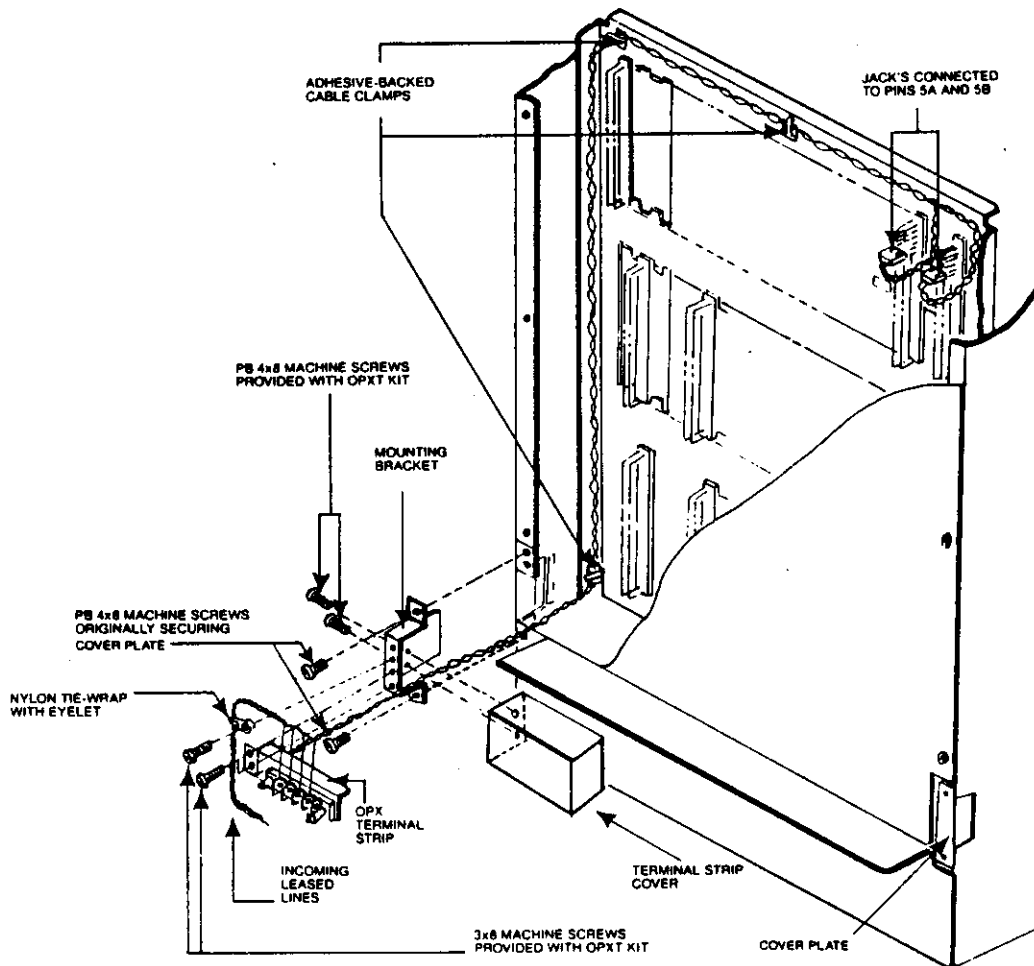

FIGURE 1—MOUNTING THE TERMINAL STRIP AND CONNECTIONS TO ECUO WIRING PINS
2.1.2 Remove the small cover plate located on the back left edge of the KSU housing just above the rear shelf. See Figure 1.
2.3.1 Connect the OPL jack, whose tag reads "1C 5AB," to pins (5A) and (5B) of the backplane location for the first C.O. line selected. See **Figures 1 and 2C**. To prevent a reversed connection, one side of the jack is labeled "UP."
2.3.3 Using the three adhesive-backed cable clamps provided with the OPL, secure the OPXT cables inside the KSU housing. See **Figure 1**.